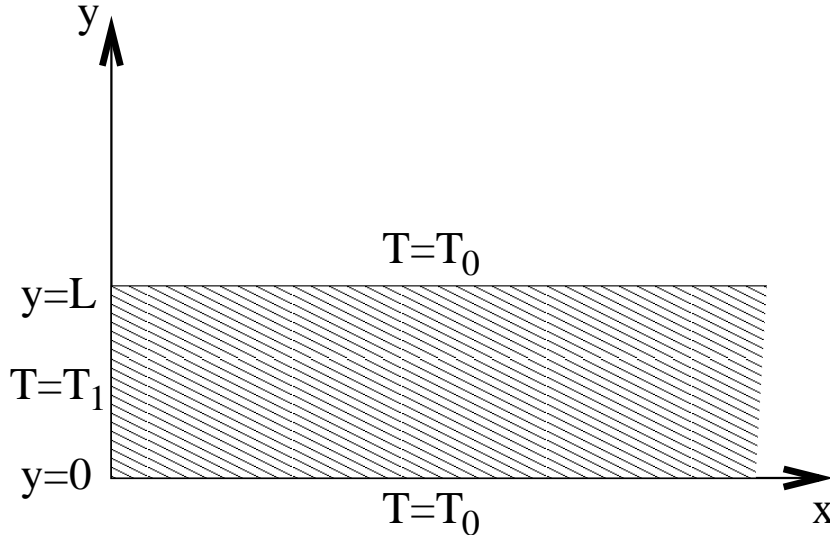

Figure 4: Conduction into a semi-infinite slab.
3. Consider a solid block extending from  $y = 0$  to  $y = L$  in the  $y$  coordinate, and from  $x = 0$  to  $x \rightarrow \infty$  in the  $x$  co-ordinate, as shown in the figure 4. The top and bottom faces at  $y = 0$  and  $y = L$  are at temperature  $T_0$ , face at  $x = 0$  is at temperature  $T_1$ . Obtain the temperature profile of the block at steady state as follows.